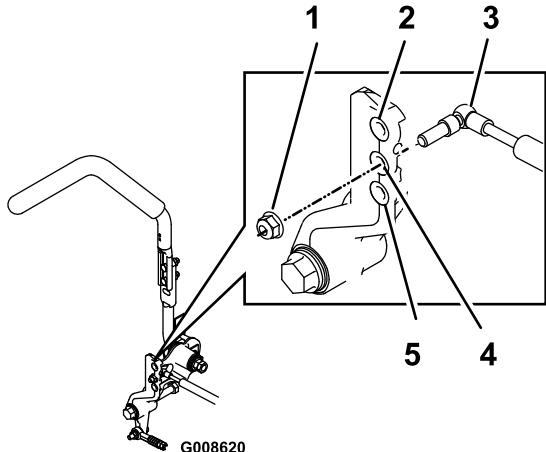

**Figure 76**
8. Adjust the pump control rod lengths by rotating the double nuts on the rod in the appropriate direction until the wheels slightly creep in reverse (Figure 76).